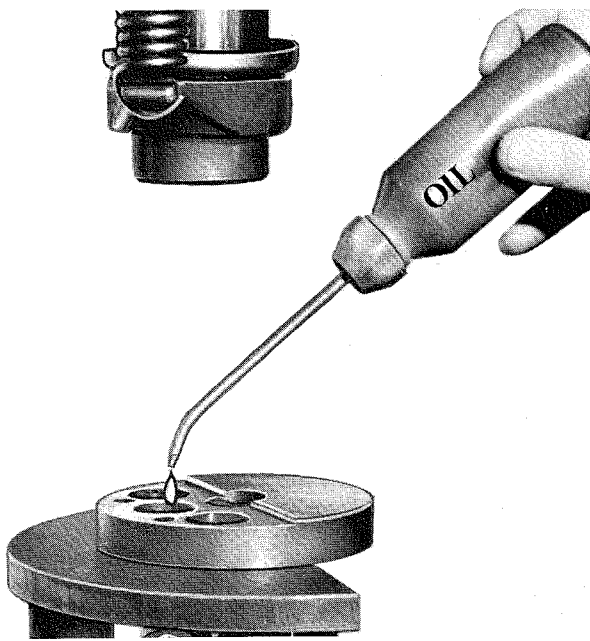

Fig. 4
3. Take out the new parts and lubricate the crank pin and the hole. See fig 4.